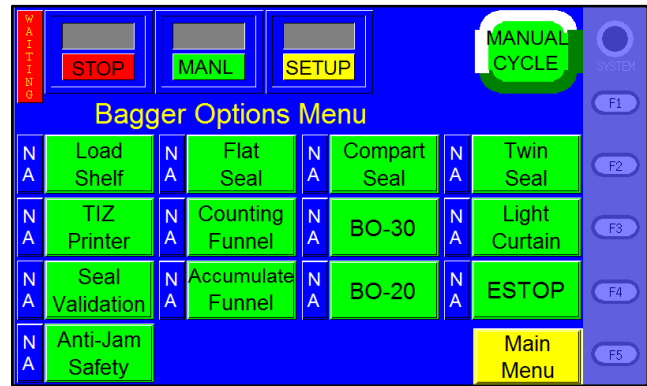

Figure 3-65
1. **Level 1:** This is the highest level pass code. It prevents operators from accessing the Technical Assistance functions of the machine. The default pass code, when shipped from the factory, is 1001. To change this code, press the **Level1 PW** button on the Password Setup Screen, enter a new code on the numeric keypad, and press the **ENT** button. See Figure 3-65.
The Options Enable Screen is used at the factory to “enable” options for use by the operator. It is accessed by pressing the **Option PassCode** button on the Technical Assistance screen. See Figure 3-65. This screen should only be accessed by qualified technicians or by the factory.